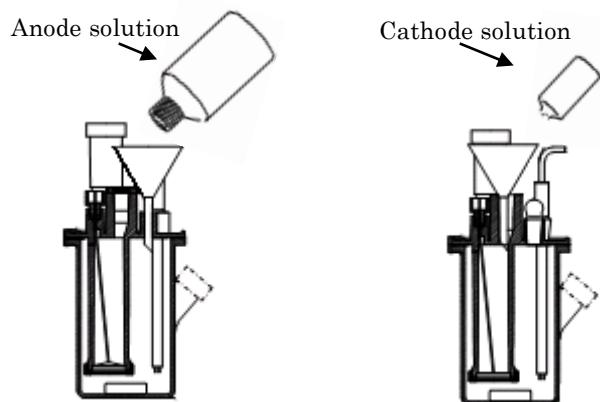

Fig.3.1. Preparation of the reagents.
- (1) Fill 100 mL of anode solution and one ampoule of cathode solution into the electrolytic cell as shown in Fig.3.1.